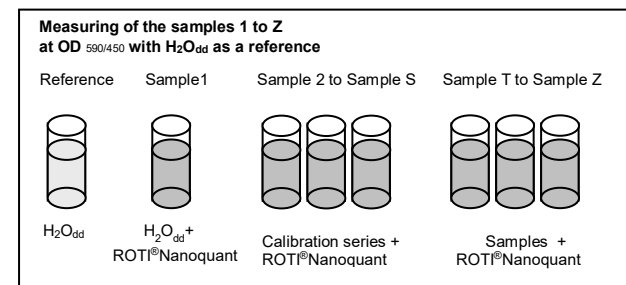

Figure 2
4. Determine OD_{590} of all your samples (sample 1 to sample Z) with $\text{H}_2\text{O}_{\text{dd}}$ as a reference (figure 2).
5. Determine OD_{450} of all your samples (sample 1 to sample Z) with $\text{H}_2\text{O}_{\text{dd}}$ as a reference (figure 2).